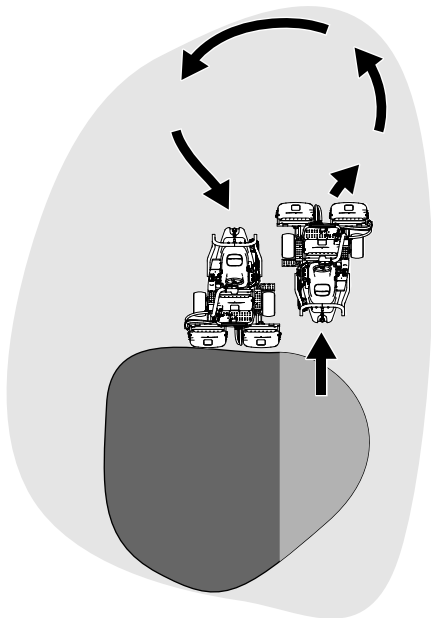

Figure 23
6. To cut down on operating time and to ease the lineup for the next pass, momentarily turn the machine in the opposite direction, then turn it in the direction of the uncut portion. This movement is a tear-shaped turn (Figure 23), which quickly lines the machine up for your next pass.